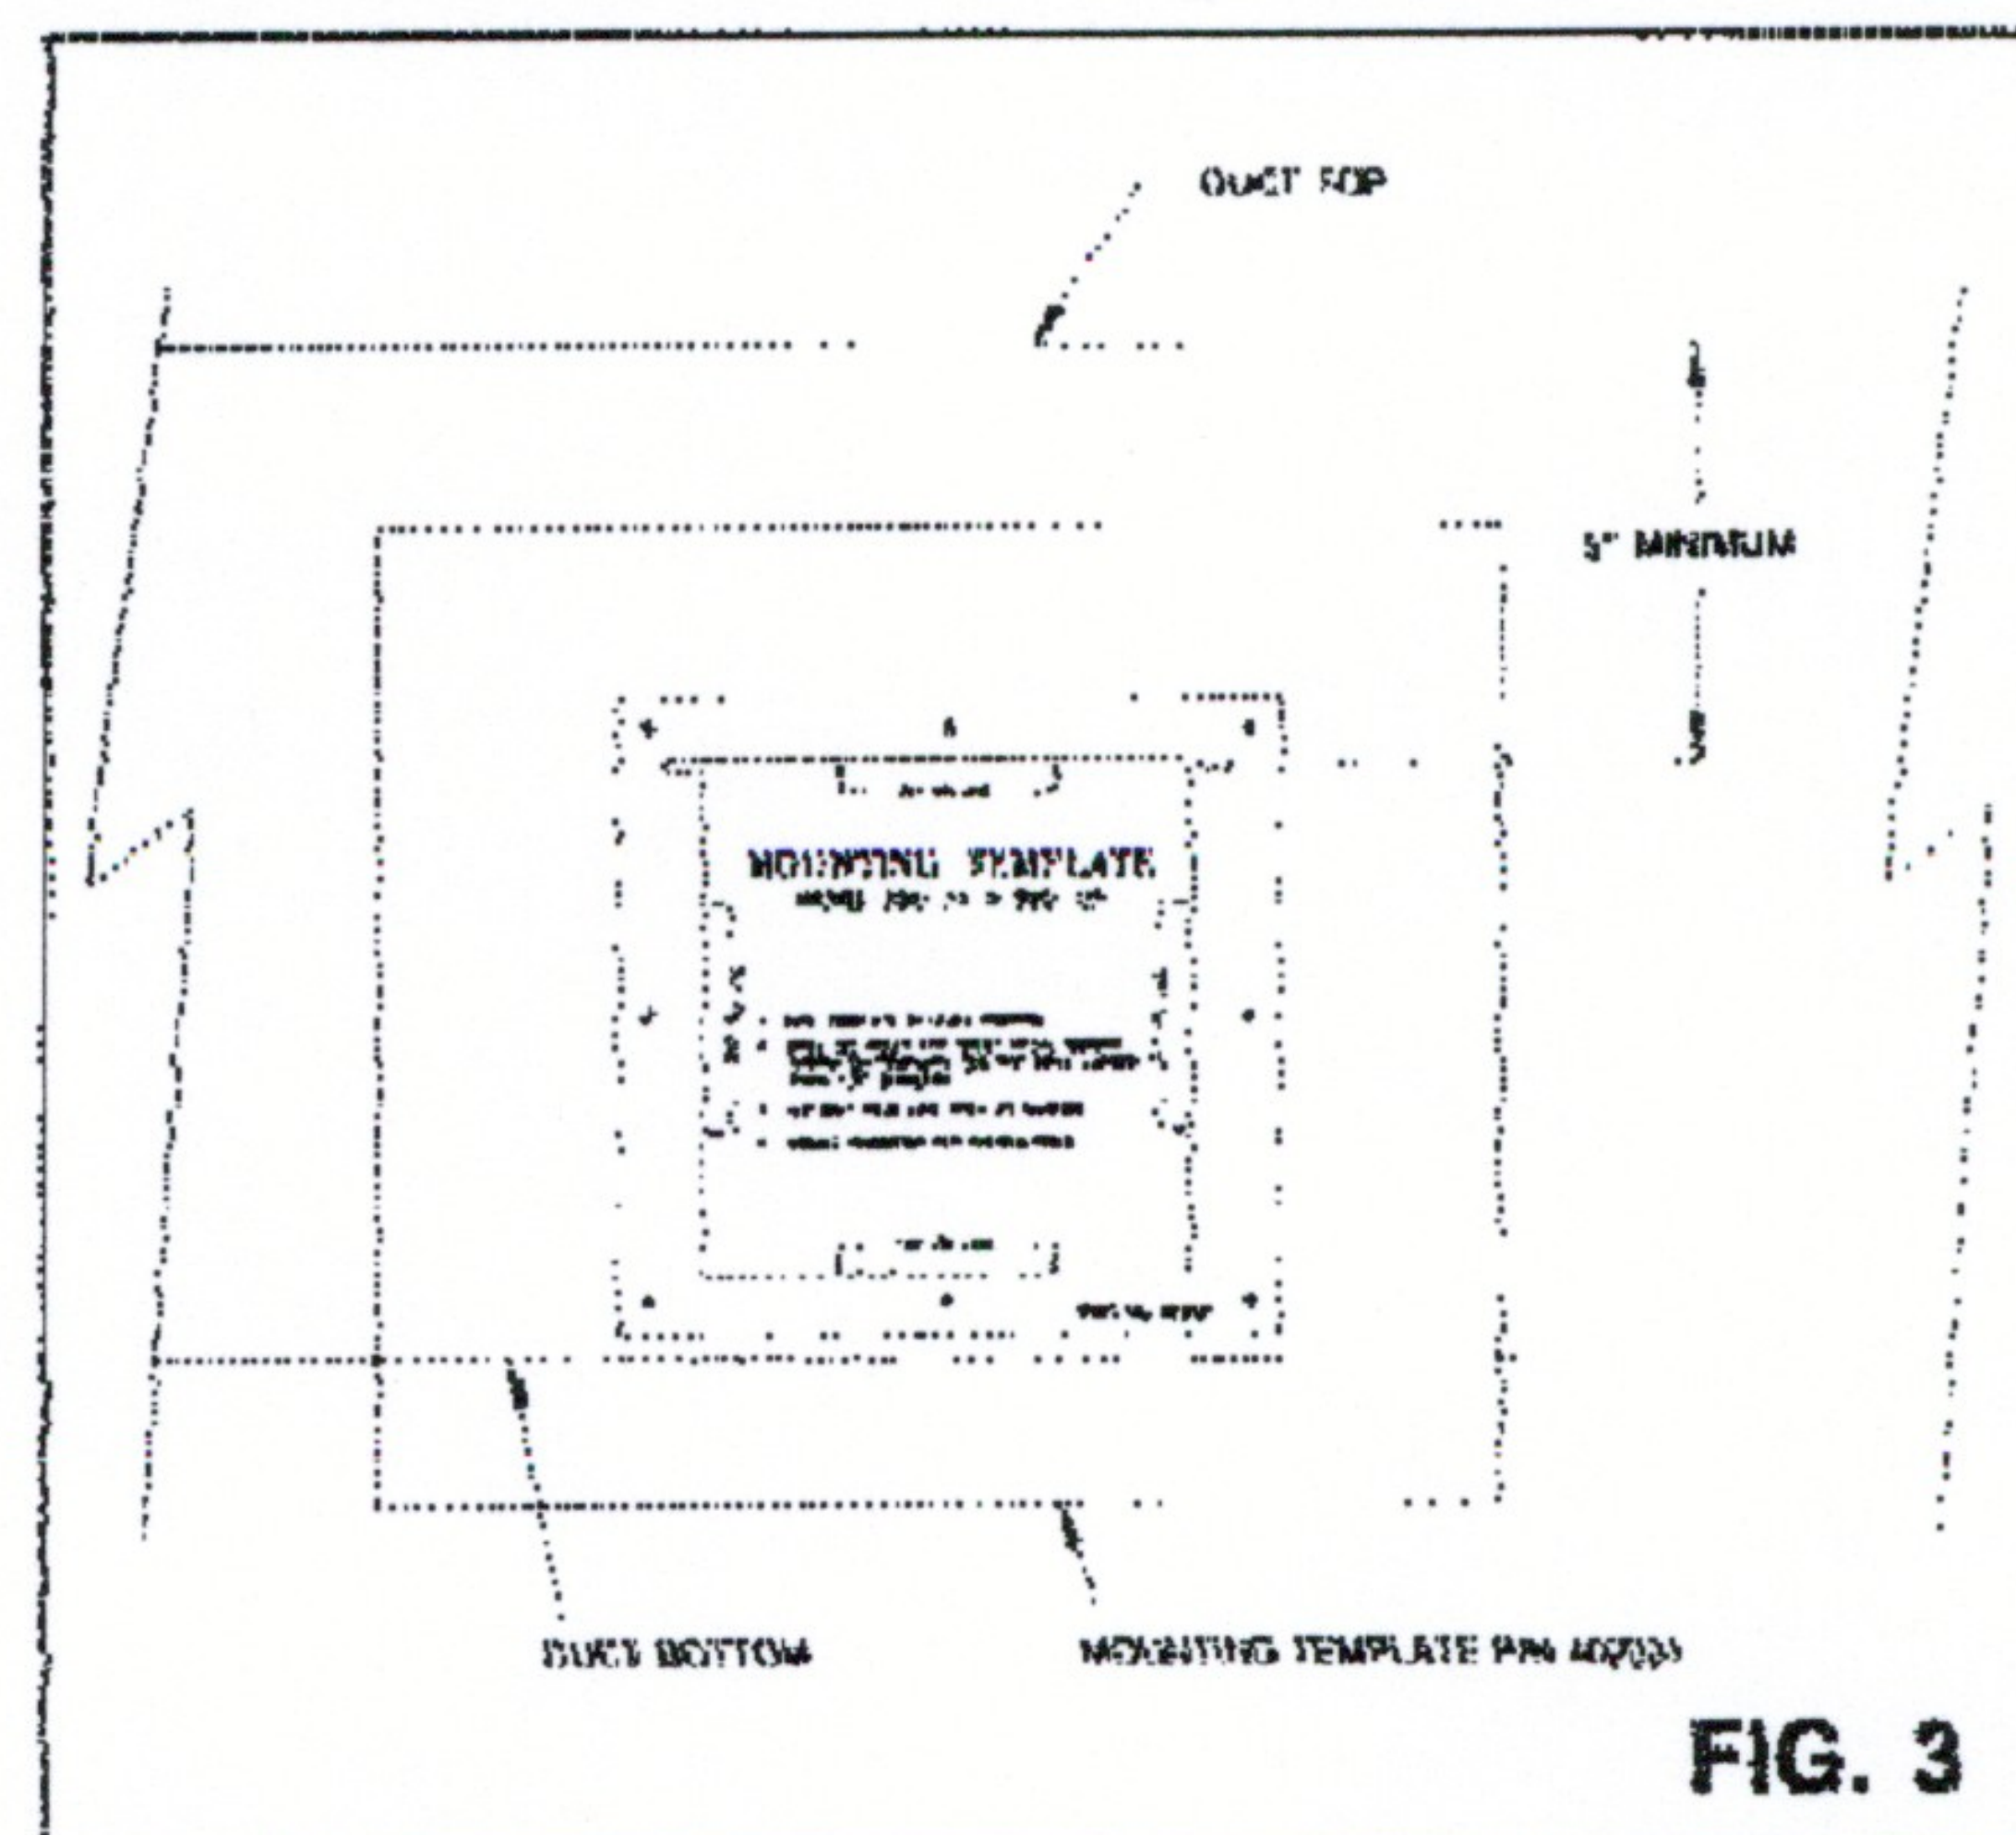

FIG. 3
When selecting a location on the duct, be certain that there is enough room in the duct for the ESU water reservoir. There should be at least five (5) inches above the reservoir (see Figure 3) and the reservoir should not occupy more than about 25 percent of the duct space. If this criteria can not be met, you should order the ESU "Under Duct Adaptor," Model 402088, in order to properly install the humidifier under a horizontal duct or relocate the humidifier.
Tape the mounting template to the duct, as seen in Figure 3. The template must be leveled using the top of the cutout on the template. The template should be located so that the bottom of the reservoir cut-out is flush with the inside of the bottom of the duct for horizontal duct. Since most ducts are insulated this additional space, about one (1) inch, must be accounted for when determining the location for the bottom of the reservoir cut-out.